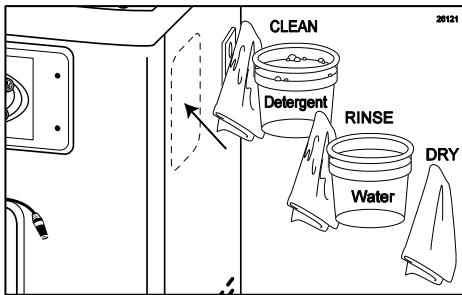

Figure 113
- Thoroughly clean and dry the face of the freezer where the Bracket base will be attached. (See Figure 113.)